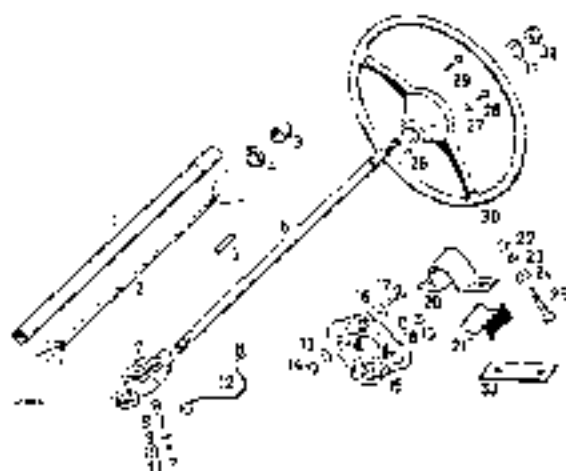

Fig. 46-B/4
7. Unscrew the choke control knob (8) with escutcheon. (Fig. 46 8/1).
15. Install the mounting plate. Make sure that the two set screws on the right side of the mounting plate are adjusted to the correct height. After adjusting the set screws tighten the wing nuts (7). Screw the hexagon nuts and the spring washers onto the set screws and tighten (see Fig. 46-B/3).
16. Screw on the pull switch for the roof light (1), the rotary light switch (2) and the pull switch for the instrument panel lighting (3) (see Fig. 46-B/2).
8. Loosen the two hexagon screws (25) for the retaining clamp (20) at the top of the cross strut in the cowl and remove the clamp together with the rubber support (21) and the shims (33) (Fig. 46-B/4).
10. Working from the engine compartment side loosen the two hexagon nuts (19) at the bottom of the steering column jacket support. If necessary also loosen the two hexagon screw (17) attaching the support to the cowl. Pull the steering column jacket out toward the rear and remove the steering lock (see Fig. 46-B/4).